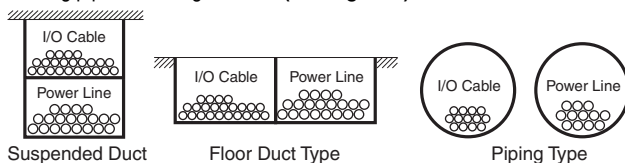

Figure 8. I/O Cable Wiring
- ② The output signal line should not be near or parallel with high current or power lines. When nearby, they should be separated by a duct, and an alternative wiring pipe should be established. In this event, the duct and wiring pipe must be grounded. (See Figure 8)